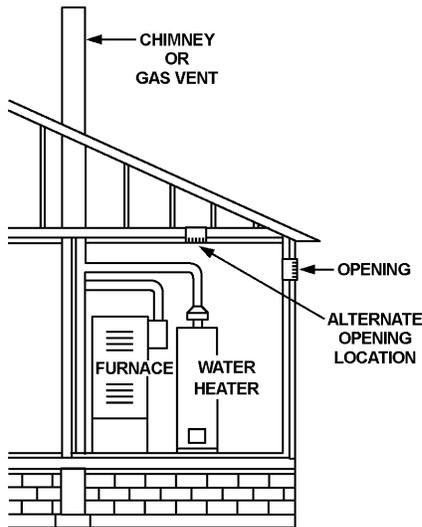

FIGURE 13A.
- Alternatively a single permanent opening may be used when communicating directly with the outdoors, or with spaces that freely communicate with the outdoors. The opening shall have a minimum free area of 1 square inch per 3,000 BTU per hour (8.3 cm2/kW) of total input rating of all equipment in the enclosure. See Figure 13A.